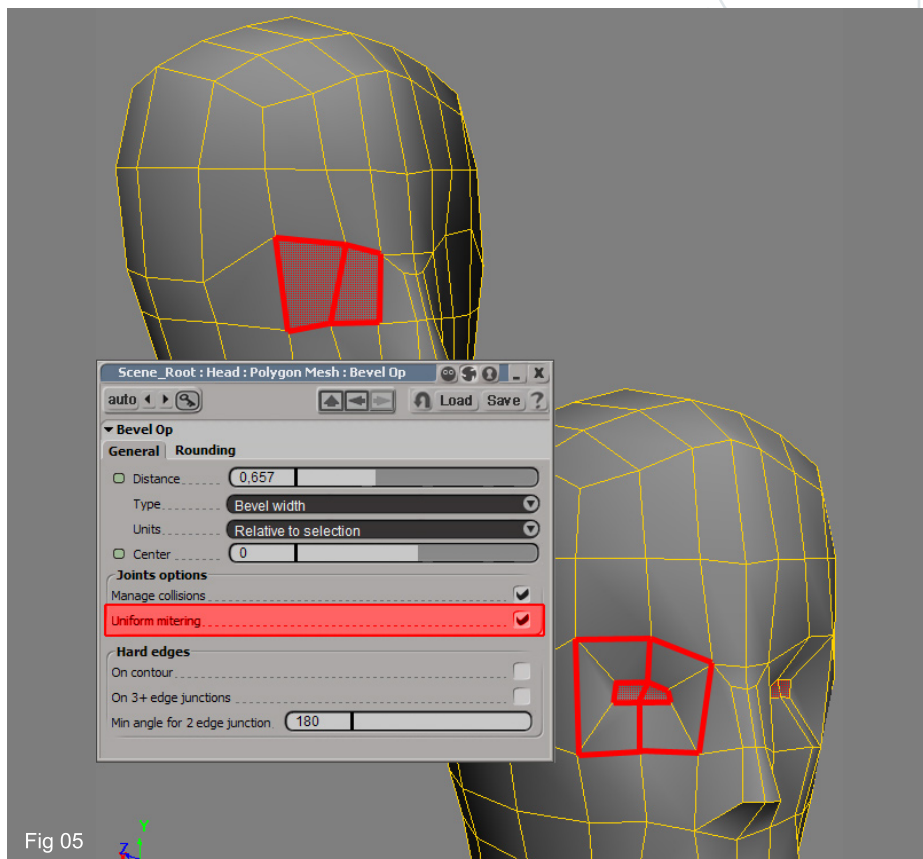

Fig 05
5. Select the two polygons marked in red in Fig05 and apply a Bevel operator (don't forget to activate the Uniform Mitering option in the Bevel property page. Next, take some time to adjust the vertices and the two new polygons created by the Bevel operator, to obtain something similar to Fig05: